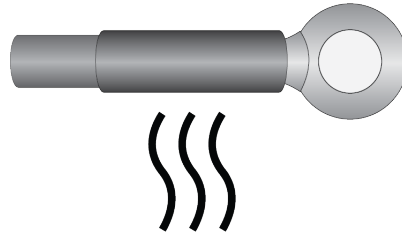

Figure 50. Heating the Heat-Shrink Tube
6. Heat the heat-shrink tube to secure it on the wire and ring terminal lug. Refer to Figure 50.